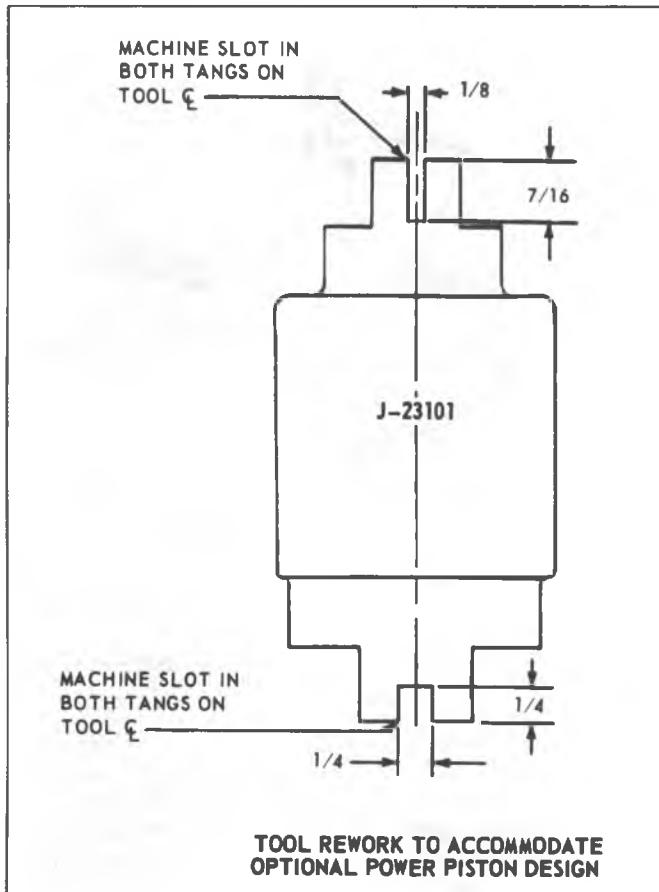

Fig. 5-3A--Rework of Tool J-23101
**NOTE:** Due to an optional construction design on the primary and secondary power pistons, Tool J-23101 will have to be reworked as shown in Figure 5-3A.